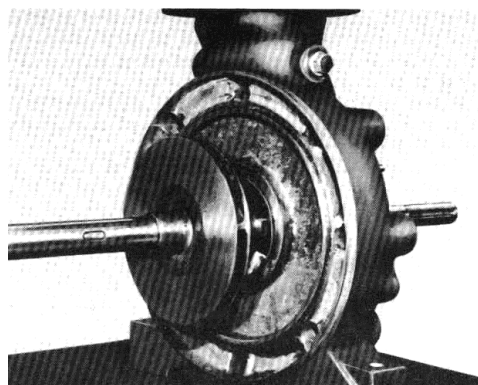

Fig. 63 - Removing the shaft together with first stage impeller
6. When the last stage casing (108) has been dismantled pull shaft (210) together with last impeller (230), spacer sleeve (525.1) and shaft protecting sleeve (524.1) out of the suction casing (see Fig. 63).